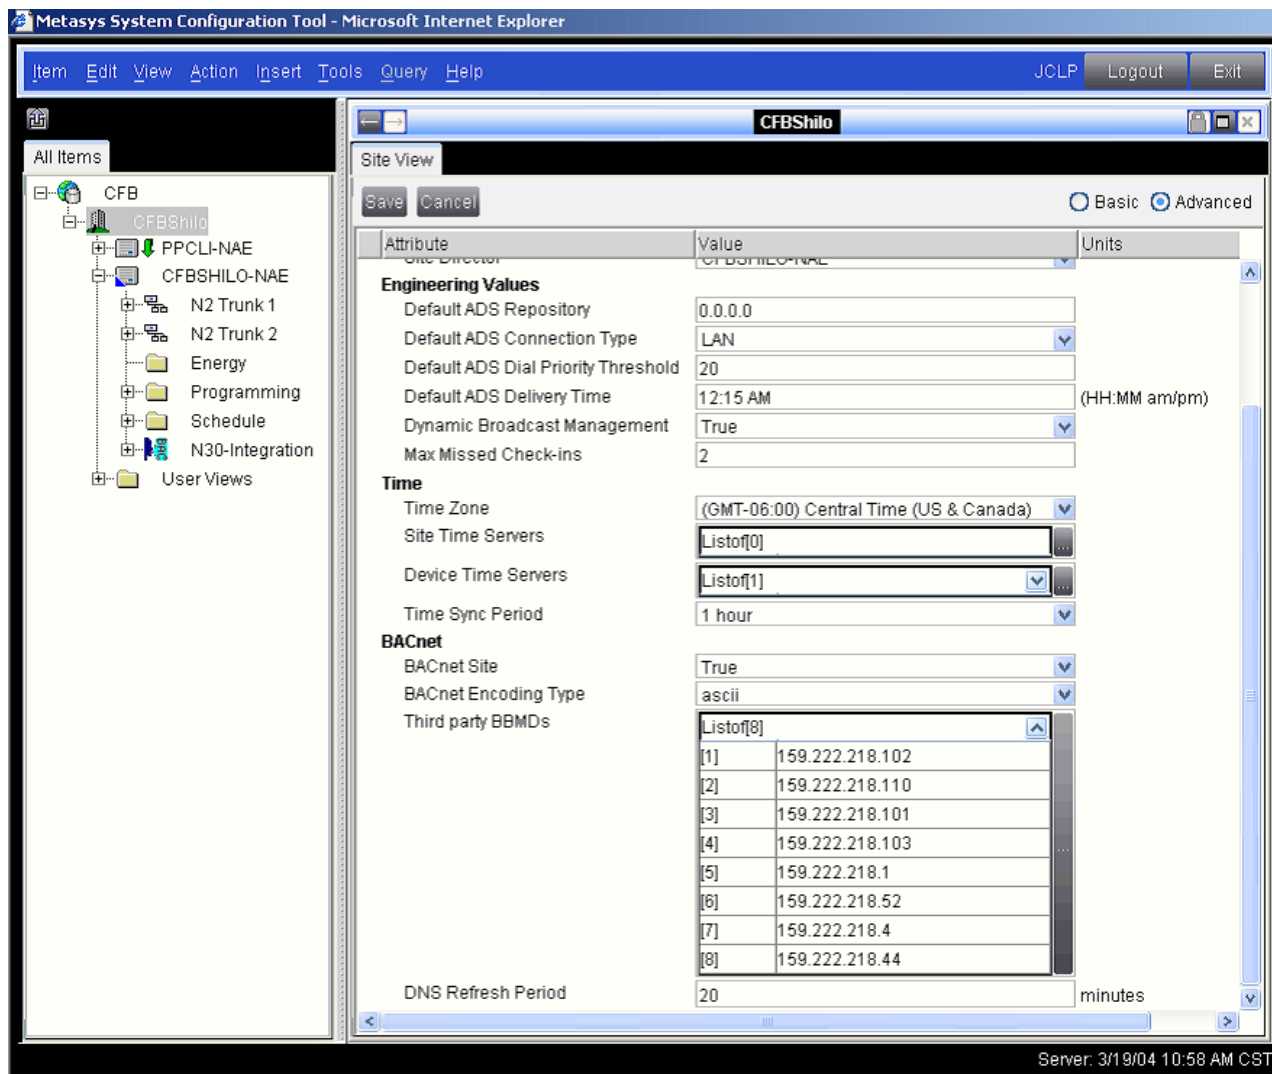

Figure 13: NAE - Advanced View
- Click Advanced, and click Edit to view the Third party BBMD (Figure 13). If the N30 resides on a segment with no NAEs, add the IP address of the N30 online or with the SCT.